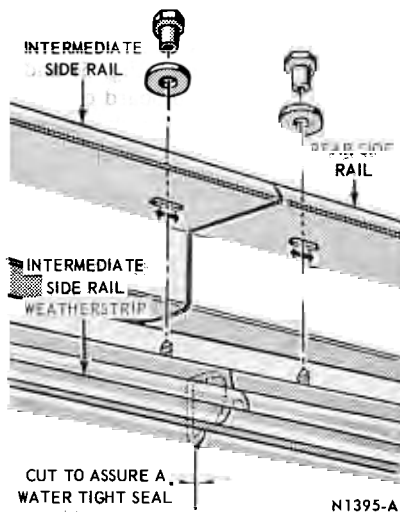

FIG. 2—Side Rail Weatherstrip Adjustment—Mustang
2. Trim the rear edge of the front top side rail weatherstrip flush with the rear end of the front side rail to obtain a water tight seal at point X (Fig. 2).
3. Adjust the rear side rail weatherstrip to provide a water tight seal at the joint (Fig. 2), and tighten the weatherstrip retaining nuts.